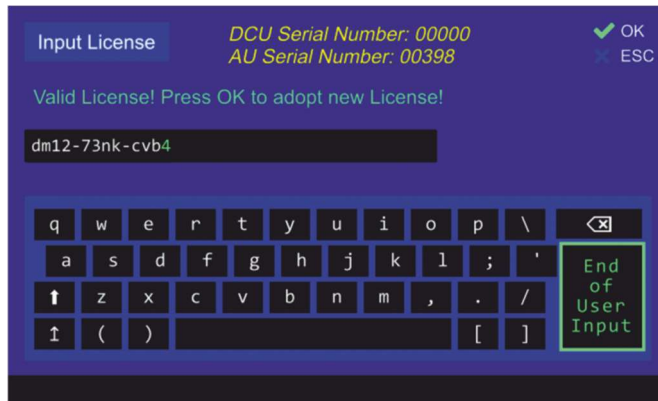

Figure 172. Input of a new license from USB
- After a valid license code was inputted, the device will show the message “Valid License!” and ask for confirming the action of adopting the new license (s. Figure 172).